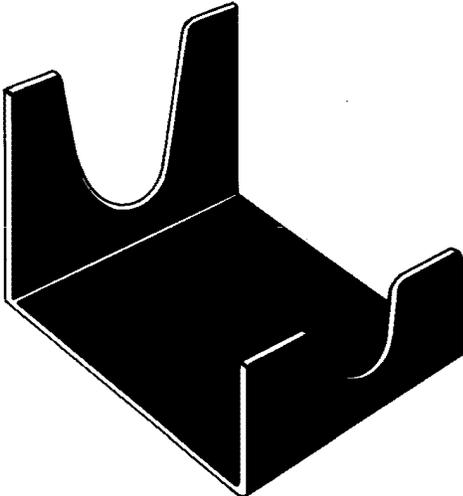

Fig. 4
**2.06 Iron Holder:** The TPW1 retrofit iron holder is used to convert the 504A soldering copper holder for use with the TPW 555 UNGAR soldering iron (see Fig. 4).